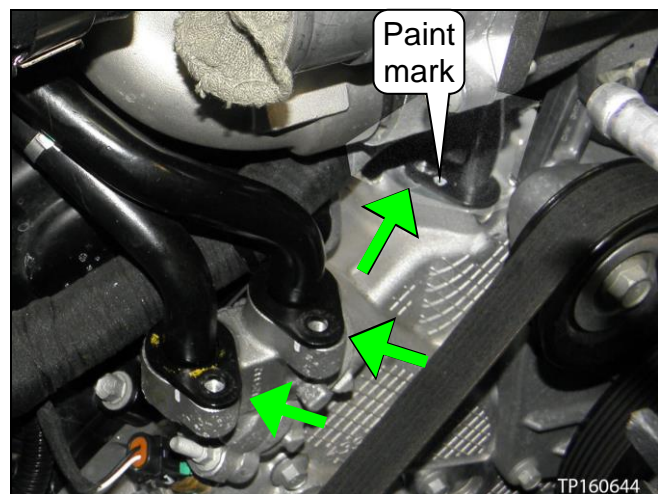

Figure 84
- For additional reference, also see page 36, Figure 84.
- The EGR bypass coolant tube and both water transfer connection tubes are properly positioned and inserted (see next page, Figure 84).
28. Install the bolts for the EGR bypass coolant tube and both water transfer connection tubes (see Figure 84).